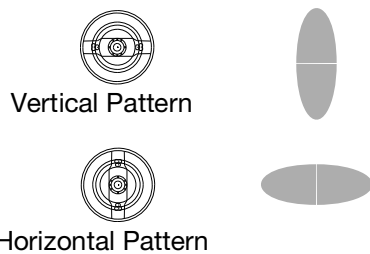

Fig. 10. Air Cap Positions
3. Loosen the air cap retaining ring, and rotate the air cap for a vertical or horizontal spray pattern. See FIGURE 10. Tighten the retaining ring until the air cap is held firmly in place; you should not be able to rotate the air cap horns by hand.